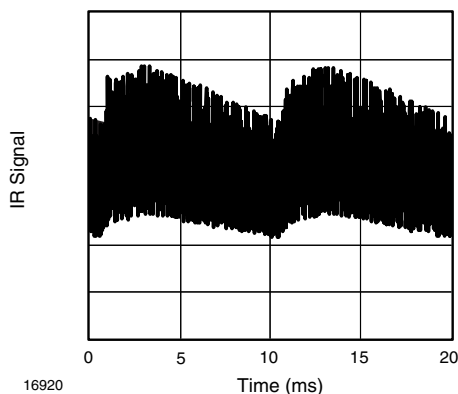

Fig. 13 - IR Disturbance from Fluorescent Lamp with Low Modulation
- Modulated IR pattern from common fluorescent lamps (example of noise pattern is shown in Fig. 13 or Fig. 14)